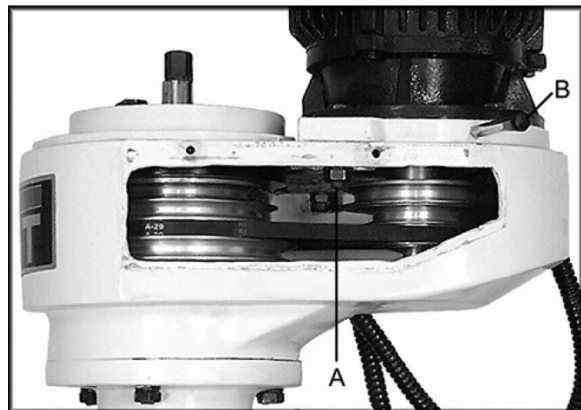

Figure 10: changing speeds
2. Loosen hex nut (A, Figure 10).
3. Release tension from belt by moving lever (B, Figure 10).
5. Re-tension the belt using lever (B, Figure 10).